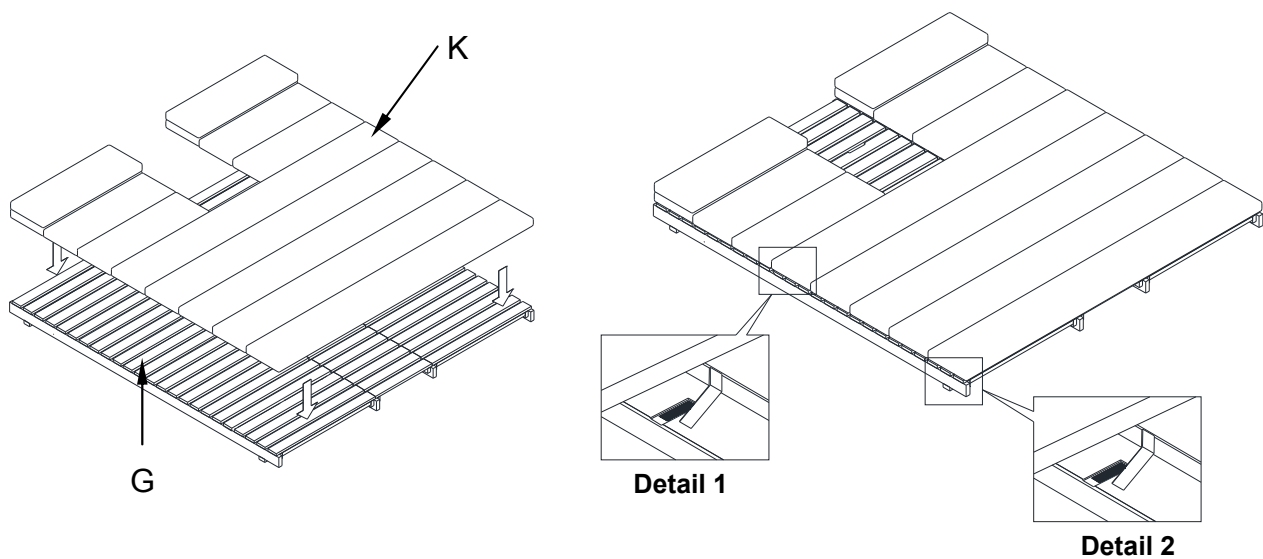

Fig. 5
5. Lay the Cushion (K) on the Main Frame (G) (See **Fig. 5**).
From under the Main Frame (G) secure the Velcro through the slats of the Main Frame (G). (See **Fig. 5**) Detail 1 & 2